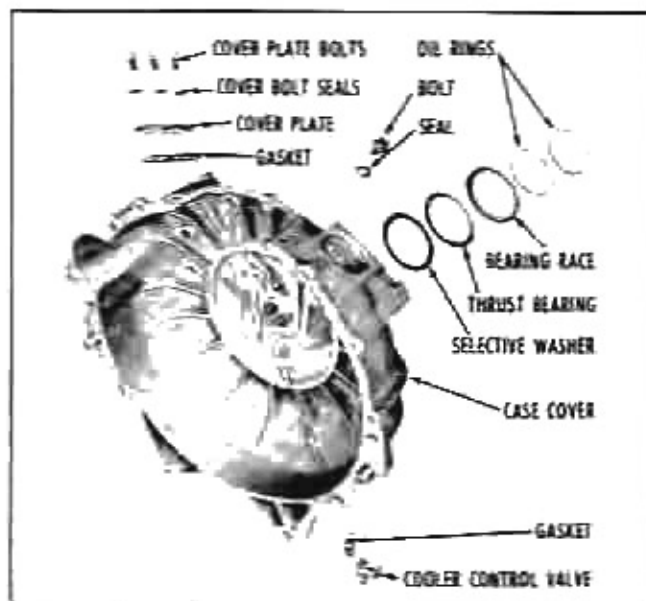

Fig. 69 Case Cover—Exploded
7. Remove 3 case cover plate to case cover bolts and seals (Fig. 69).